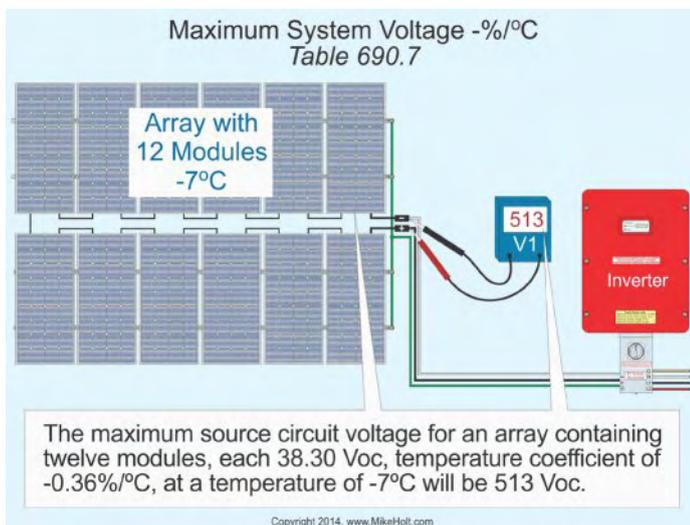

Figure 690-30
**Example:** Using the manufacturer's temperature coefficient of  $-0.36\%/^{\circ}\text{C}$ , what's the maximum PV source circuit voltage for twelve modules each rated Voc 38.30, at a temperature of  $-7^{\circ}\text{C}$ ? Figure 690-30